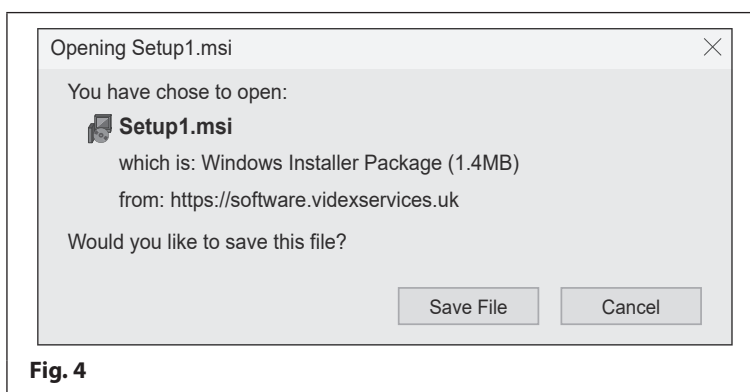

Fig. 4
4. Under the GSM list of options select '**Latest version (Update)**' and then click on the file '**Setup1.msi**', the opening setup1 window will appear, **Fig.4**.